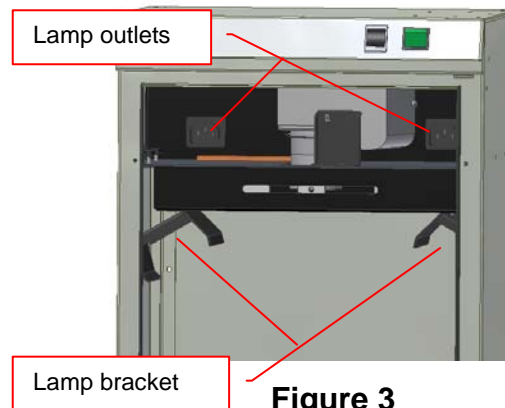

Figure 3
1. Insert a lamp into each bracket (Fig. 3) so that the cord is directed to the back of the darkroom.